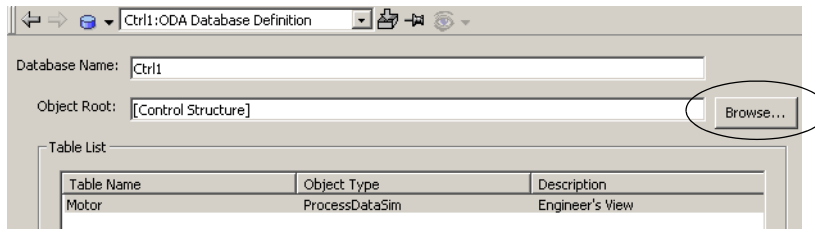

Figure 386. Starting the Browser
1. Click the **Browse** button for the Object Root field, Figure 386. This displays a browser similar to the Plant Explorer.